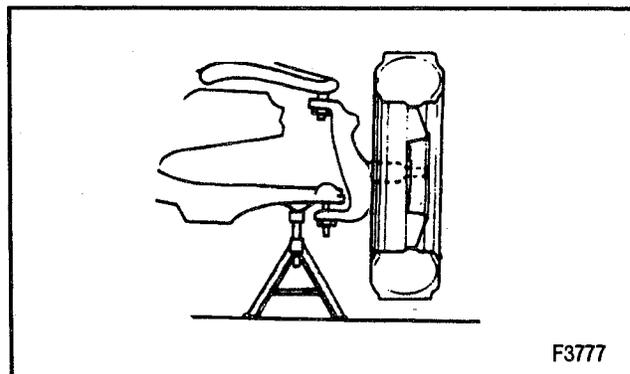

Figure 2—Supporting the Lower Control Arm
- Raise the vehicle and support it with suitable safety stands. Support the lower control arm with a floor stand or jack as far outboard as possible under the stabilizer shaft bracket (Figure 2).